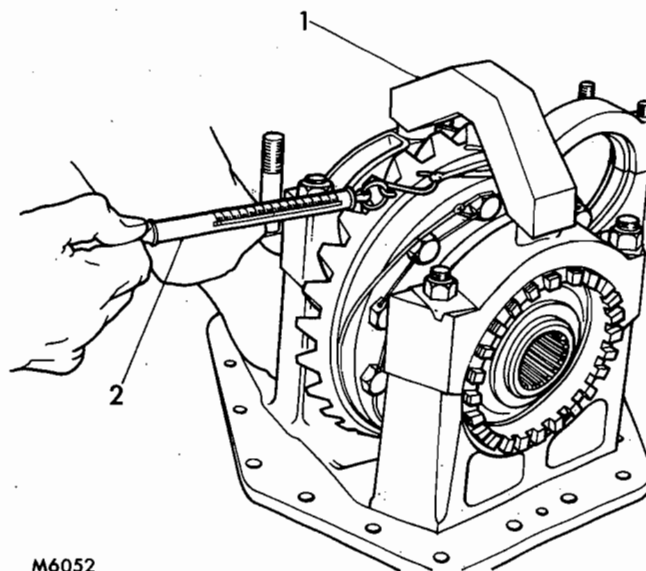

FIG. 5 CHECKING DIFFERENTIAL BEARING PRELOAD
4. Fit differential assembly adding 0.060 in of shims (63).
5. Fit bearing caps (2) and nuts; tighten nuts sufficiently to allow lateral movement of bearings.
6. Position bridge piece tool 3VRM-227-SZ Fig. 5.
8. Check pre-load using a spring balance taking the reading from the rim of the differential cage as shown in Fig. 5.